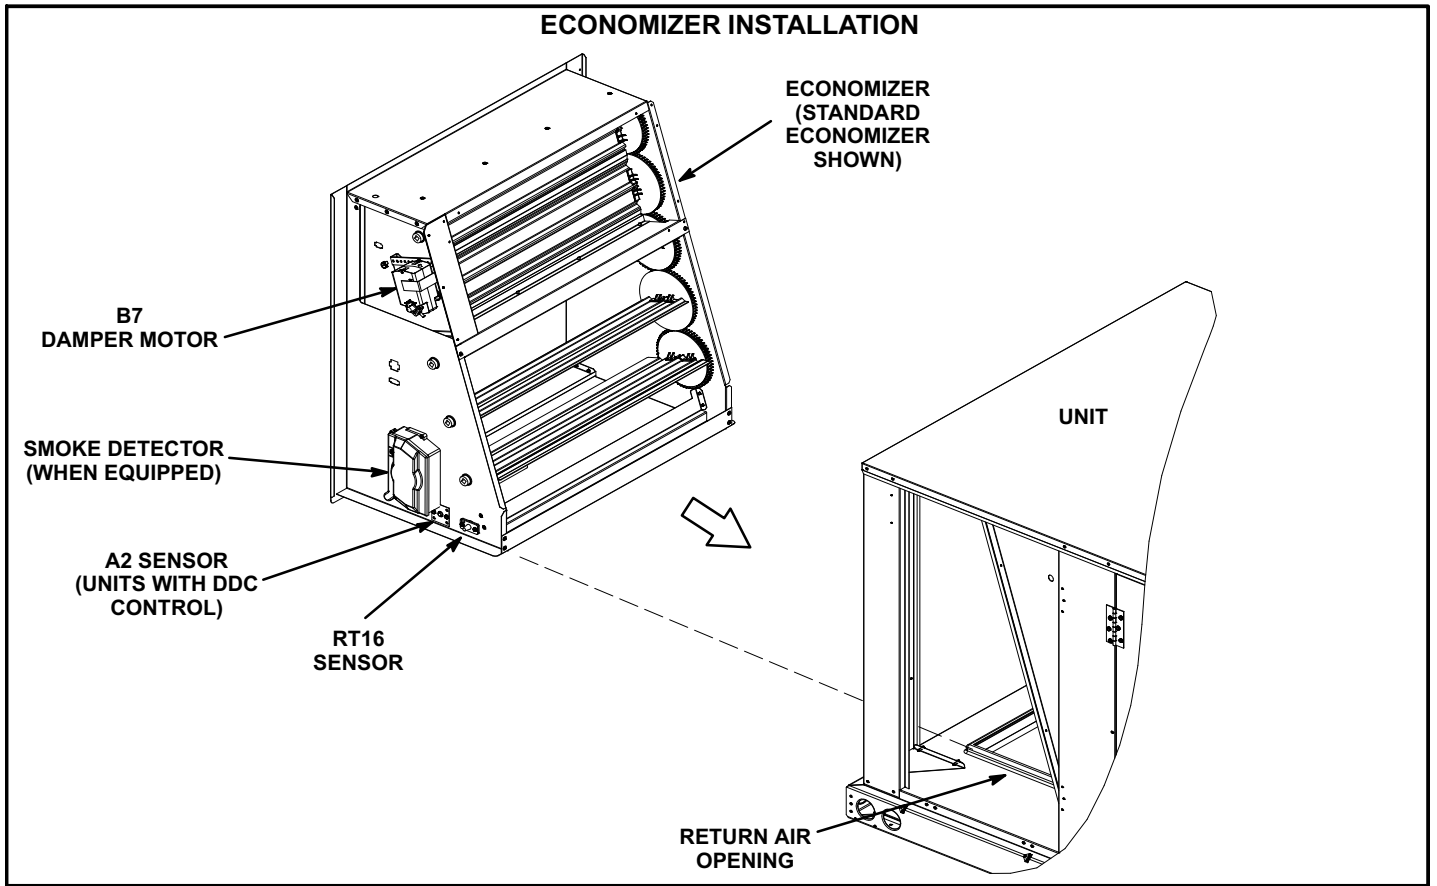

FIGURE 3
- 3- Install damper assembly through end of unit. Fit opening in bottom of damper assembly over the return air opening. See figure 3.
- 4- Install retained sensors in the side of the economizer. See figure 3.